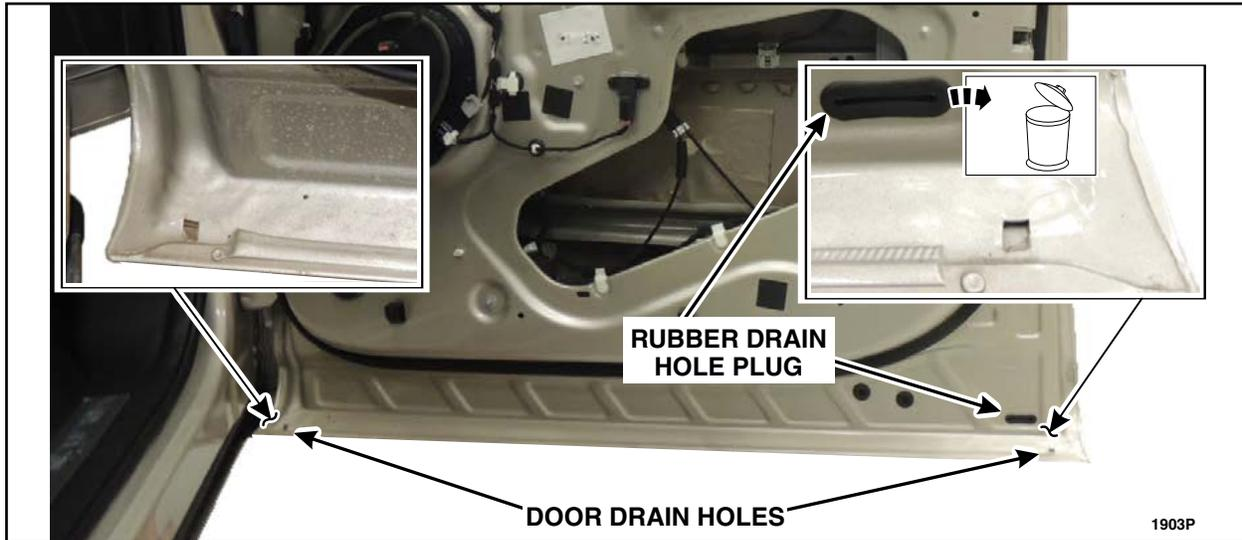

FIGURE 55
3. Remove and discard the rubber drain plug and clean any obstructions, debris, foreign material and residual water from all of the door drain holes using compressed air and a tool such as a plastic trim tool or a zip tie. See Figure 55.